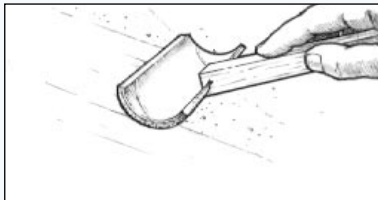

Figure 31 Tip off the coating by dragging a foam roller brush lightly over the fresh epoxy.
8. “Tip off” the coating by dragging a foam roller brush lightly over the fresh epoxy in long, even, overlapping strokes after each batch is applied. Use enough pressure to smooth the stipple, but not enough to remove any of the coating (Figure 31). Alternate the direction in which each coat is tipped off, 1st coat vertical, 2nd coat horizontal, 3rd coat vertical, etc. A WEST SYSTEM 800 Roller Cover can be cut into segments to make an excellent “tipping” brush.